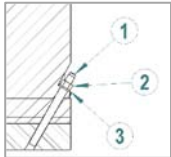

Figure 4.13: Dowel pin set
After aligning the set and having assured a perfect alignment (both, hot and cold), the motor must be doweled to the anchor plate or to the base, as shown in Figure 4.13.
**Figure 4.13 legend:**